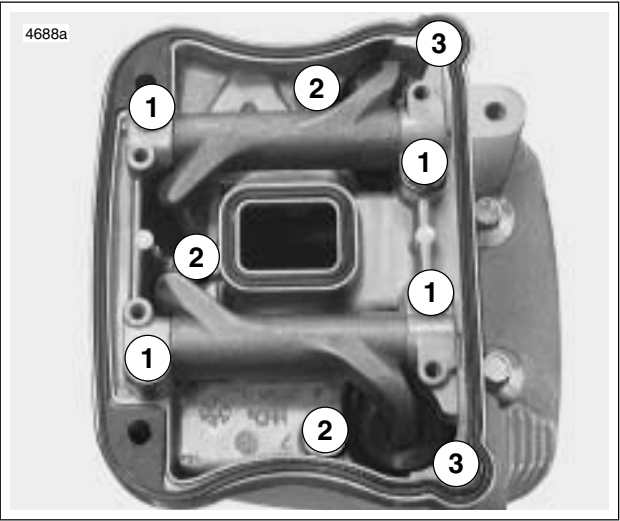

Figure 3-88. Lower Rocker Box Fasteners
9. See Figure 3-88. Install **new** gaskets with the bead facing up. Place lower rocker box assembly (with rocker arms and shafts) into position. Place push rods in rocker arm sockets.
10. See Figure 3-88. Install hardware attaching lower rocker cover to cylinder head in the following order. After loosely installing all fasteners, use a cross pattern on the four large bolts that fasten the lower rocker box to head to tighten and then torque to specifications. This will bleed the tappets. Finish tightening remaining fasteners. Fastener sequences, sizes and torque specifications are listed in Table 3-21.
- a. Tighten bolts (1) to 18-22 ft-lbs (24-30 Nm).
- b. Tighten bolts (2) to 135-155 **in-lbs** (15-18 Nm).
- c. Tighten screws (3) to 135-155 **in-lbs** (15-18 Nm).